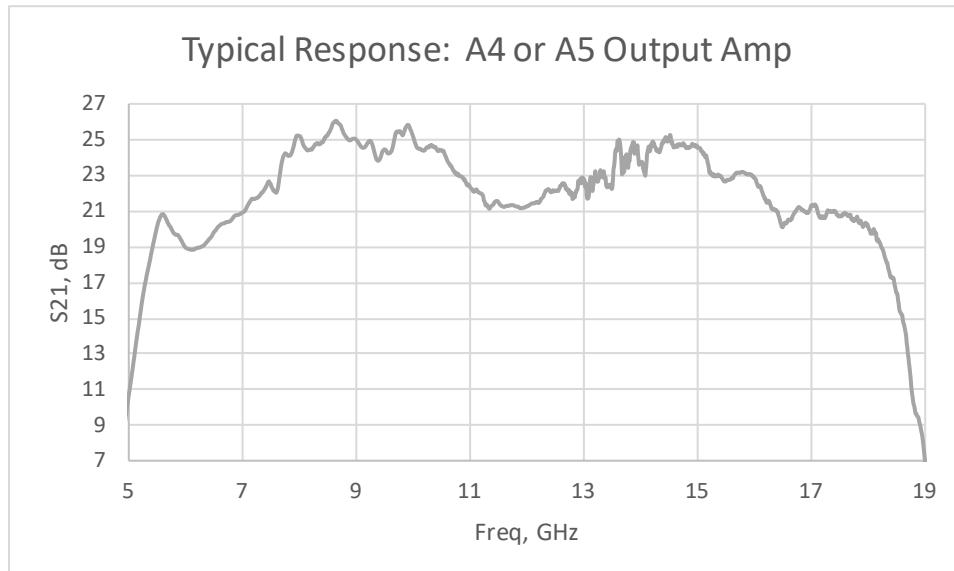

Figure 4-5. Typical Response A4 or A5 Output Amp
10. If the gain output is not correct, disconnect the input semi-rigid cables to A4 and A5 output amps and individually measure. The typical response from the input of A4 or A5 20-watt output amp to the output is shown in Figure 4-5.